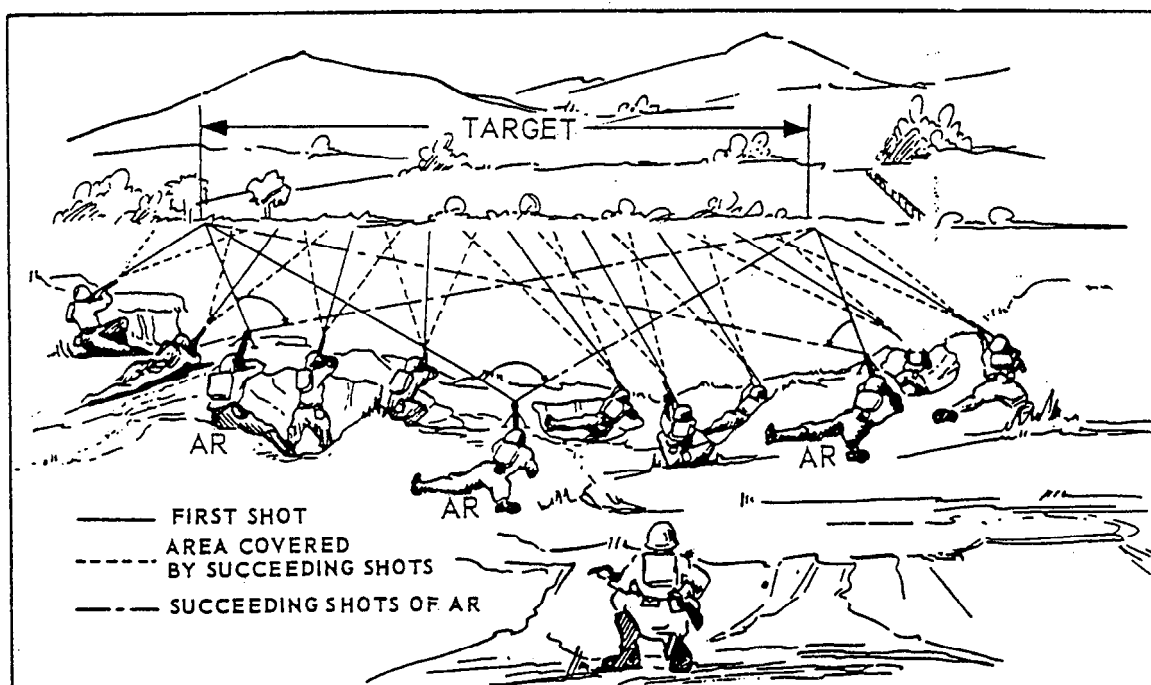

Figure 3-67—Fire distribution by individuals of the rifle squad.
- **DISTRIBUTED FIRE** is fire distributed in width for the purpose of keeping all parts of a larger-than-point target under effective fire. Each rifleman fires his or her first shot at that portion of the target corresponding generally to his or her position in the squad. He or she then distributes his or her succeeding shots over that part of the target extending a few yards right and left of the point of aim for his or her first shot. The width of target he or she will cover will be the maximum on which he or she can deliver accurate fire without changing his or her position, as shown in figure 3-67.